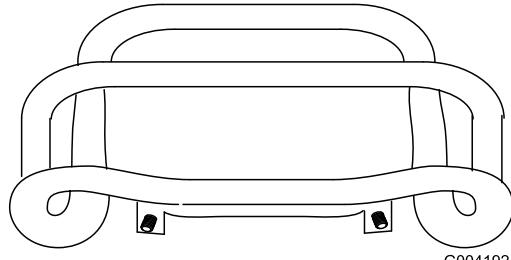

**Figure 55**
4. If the front of the traction control does not rest square and flush with the reference bar, loosen the flange nut and bolt in the stem of the traction control (Figure 55).
5. Adjust the traction control so that it rests flush against the reference bar when it is pulled straight back (Figure 55 and Figure 56).
- Loosen the flange nut and bolt in the stem of the traction control (Figure 55).
I. Adjust the traction control so that it rests flush against the reference bar when it is pulled straight back (Figure 55 and Figure 56).